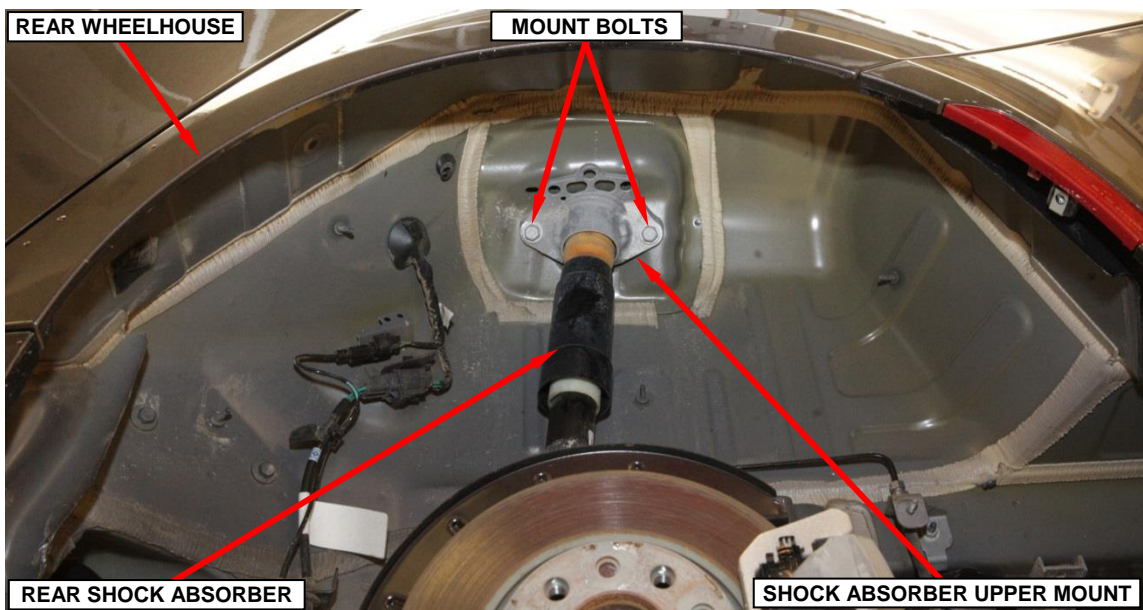

Figure 3 – Rear Shock Absorber Upper Mount
5. Rear shock absorber upper mount bolts on the left and right side of the vehicle, four bolts total. Tighten the bolts to 52 ft. lbs. (70 N·m) (Figure 3).